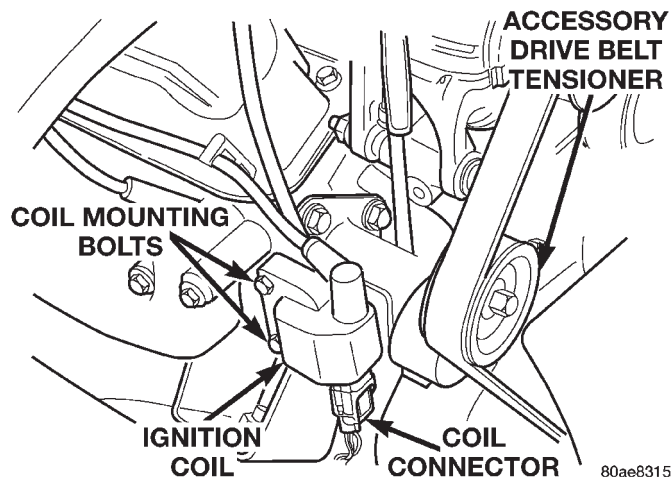

Fig. 12 Ignition Coil (5.2L Shown)
The ignition coil (Fig. 12) is designed to operate without an external ballast resistor.
(1) Unplug the ignition coil harness connector at the coil (Fig. 12).
(2) Connect a set of small jumper wires (18 gauge or smaller) between the disconnected harness terminals and the ignition coil terminals. To determine polarity at connector and coil, refer to the Wiring Diagrams section.
(3) Attach one lead of a voltmeter to the positive (12 volt) jumper wire. Attach the negative side of voltmeter to a good ground. Determine that sufficient battery voltage (12.4 volts) is present for the starting and ignition systems.